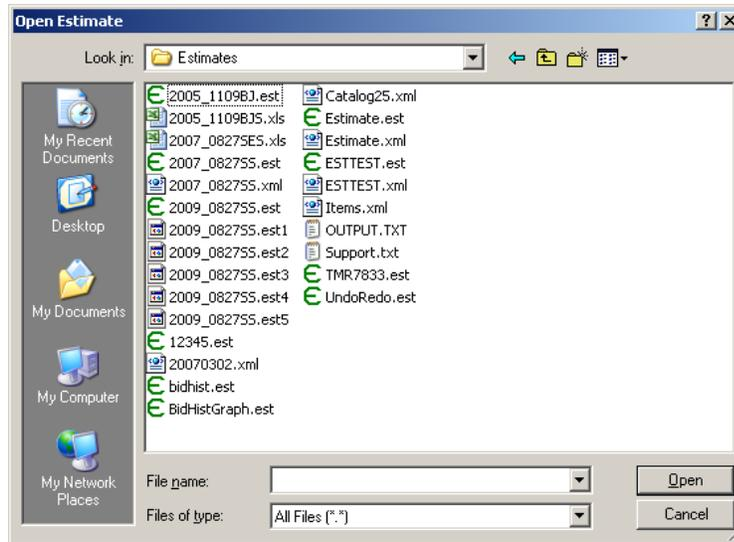

Figure 5-1. Open Estimate Window With All Files Showing
- Note:** Depending on how many times you saved Estimate 2009\_0827SS, your archived estimates may look different than the one in Figure 5-1.